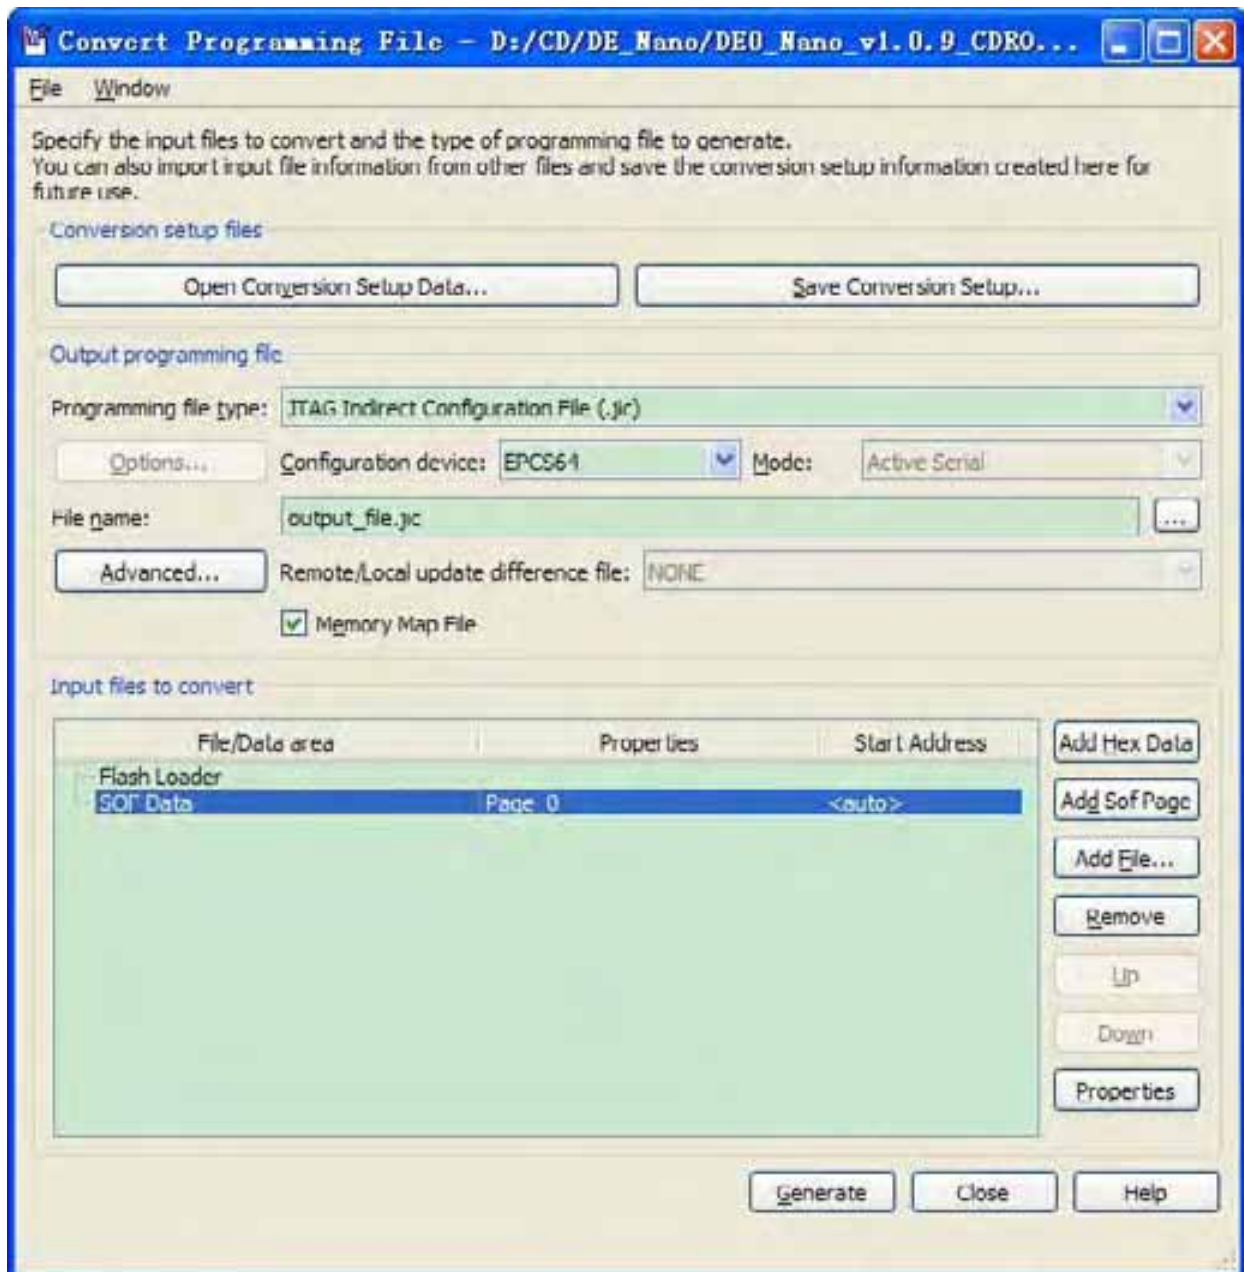

Figure 9-1 Convert Programming Files Dialog Box
5. Highlight the **SOF Data** row in the table, as shown in **Figure 9-1**.